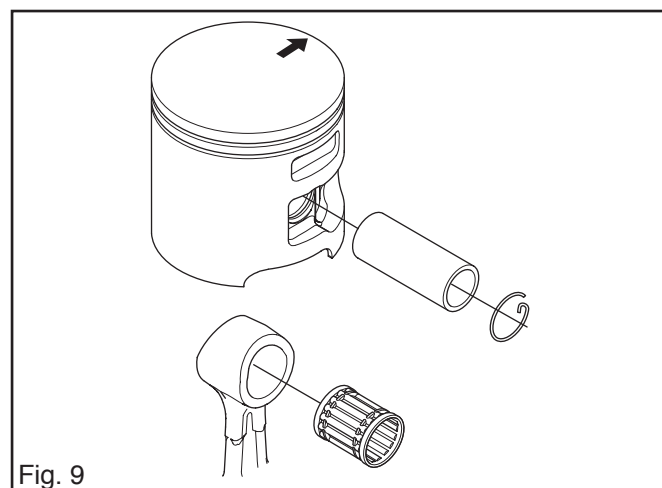

Fig. 9
2. Replace the piston with the arrow facing the exhaust port. See fig. 9. Slide in the gudgeon pin and fit the circlips.